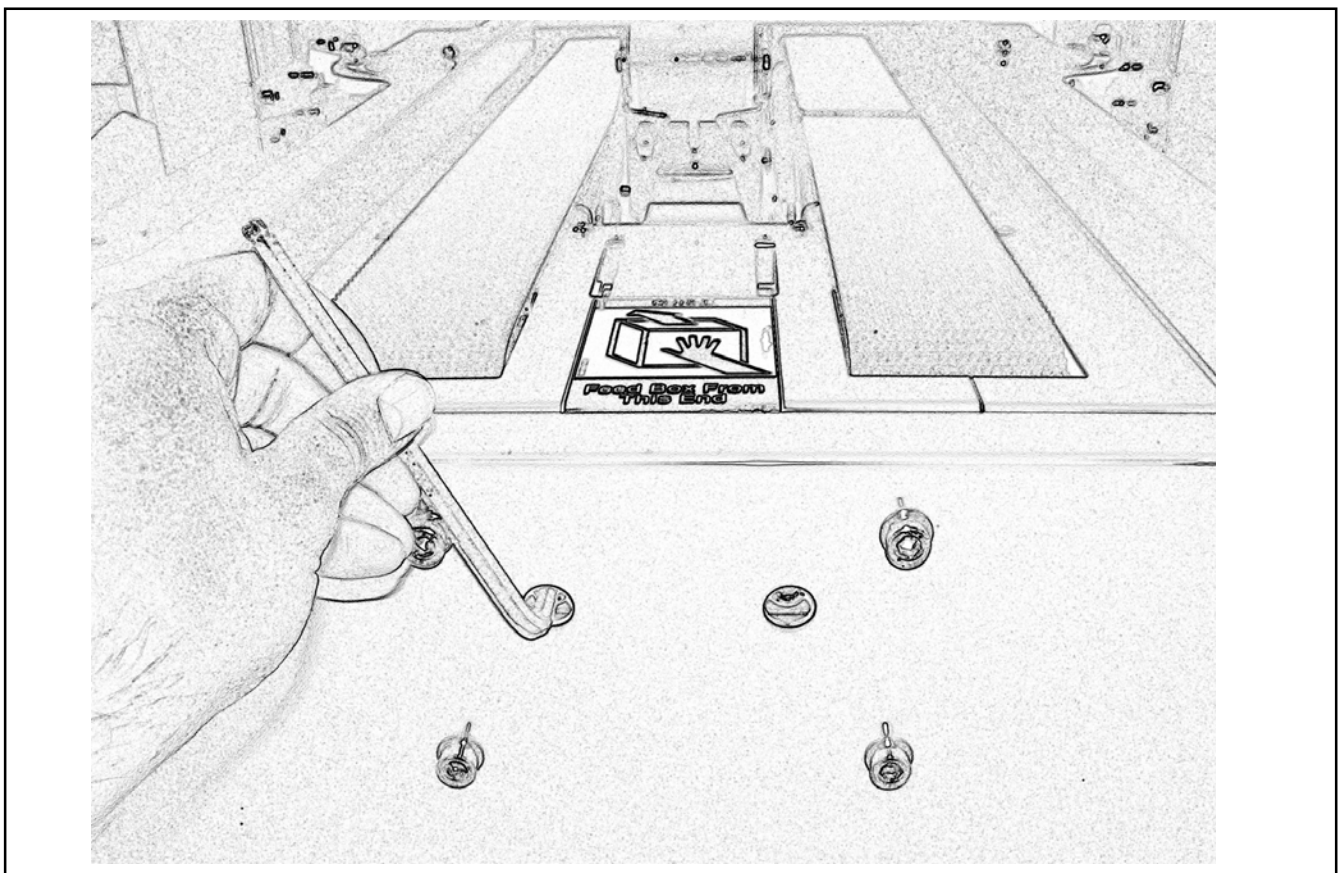

Figure 5-2—Box Drive Belt Tension Adjustment, Lower Belts (Infeed End)
2. Using a 6 mm hex wrench, loosen tension screw until all belt tension is removed as shown in Figure 5-2.
Refer to Figures 5-2 and 5-3 and adjust belt tension as follows: